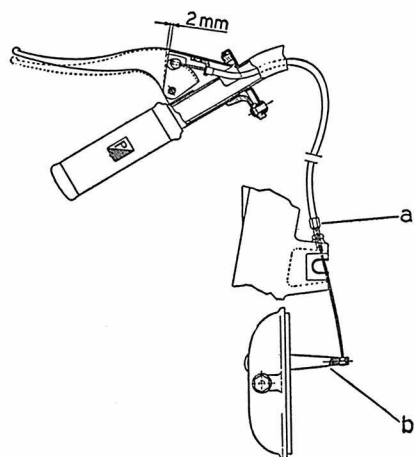

Fig. VE2-5—Clutch control on handlebars should have 2 MM (0.078 in.) free travel before moving lever (b).
**CLUTCH CONTROLS.** The clutch control cable should be adjusted to provide 2 MM (0.078 in.) free play at hand lever as shown in Fig. VE2-5. Adjustment is at (A).